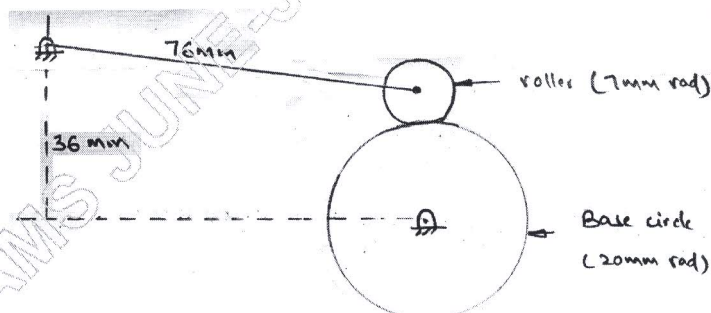

Fig. Q8
- 8 For a cam follower system shown in Fig. Q8, draw the displacement diagram for the follower and cam profile. Motion of the follower is as follows. Rise through  $20^\circ$  in  $90^\circ$  cam rotation in SHM, dwell in  $90^\circ$  cam rotation, fall in  $90^\circ$  cam rotation in SHM. The cam rotates in CW direction. (20 Marks)